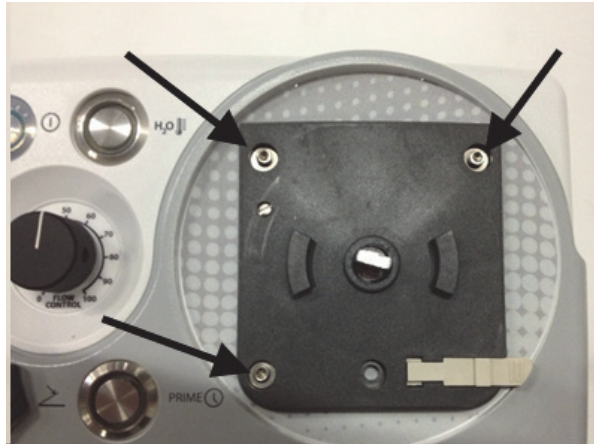

Figure 1
- Remove the three pump head screws, refer to figure 1.
- Set the Pump Head Mounting Plate in place and secure with three screws. See figure 1 in the previous section.
- Attach the cover and secure with two (2) 5/64 hex screws.